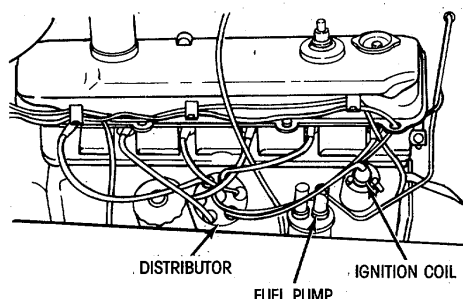

Figure 1-3. Right Side View of Engine
**1-13. IGNITION SYSTEM.** The distributor (figure 1-3) is an electronic control type and is driven off the engine camshaft. It is mounted on the lower right center of the engine. The ignition coil is installed on the lower right front side of the engine. The spark plugs are located in the right side of the cylinder head.
**1-15. FUEL PUMP.** The fuel pump (figure 1-3) is mechanically driven from the engine camshaft. The pump is installed on the lower right front side of the engine. A cleanable fuel filter and bowl are integral with the fuel pump. The fuel tank is located in the right fender.